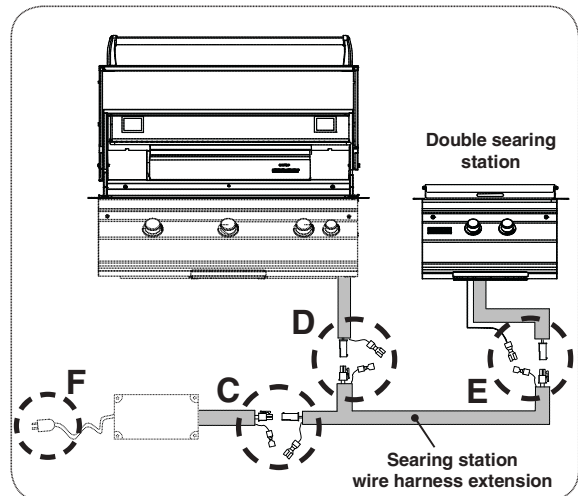

Fig. 16-3 Connect searing station to grill setup
- Locate the end of the searing station wire extension that has two mox and ground connections. Connect the extension (plug) mox connection to the power supply (receptacle) mox connection and ground wires (See Fig. 16-3, **C**).
- Connect the extension (receptacle) mox to the grill (plug) mox connection and ground wires (See Fig. 16-3, **D**).
- Connect the opposite end of the extension to the searing station as shown in Fig. 16-3, **E** (mox and ground wire connections).
- Reconnect the power cord (see Fig. 16-3, **F**).